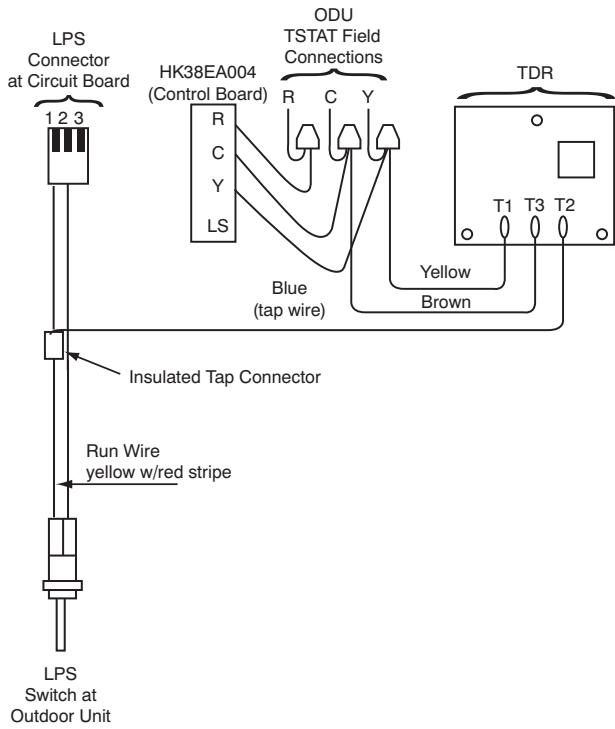

Fig. 3 - Infinity/Evolution (HK38EA004)
4. Identify the LPS (low pressure switch) connector at the ODU circuit board, and identify the 24vac LPS run-wire (or main lead) for the pressure switch. The LPS run-wire is different between circuit boards (see Fig. 3, 4, 5 and 6).
- Infinity/Evolution (HK38EA004) LPS run-wire is connected to pin #1 (see Fig. 3).